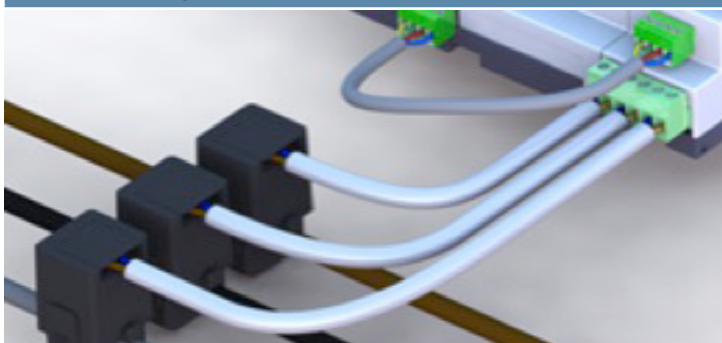

Fig. 2: Installing current transformers
- ▶ Clamp the CT onto the conductor for L1 (phase 1). (Fig. 2). Note the polarity of the CT, the arrow on the CT should point towards the load.